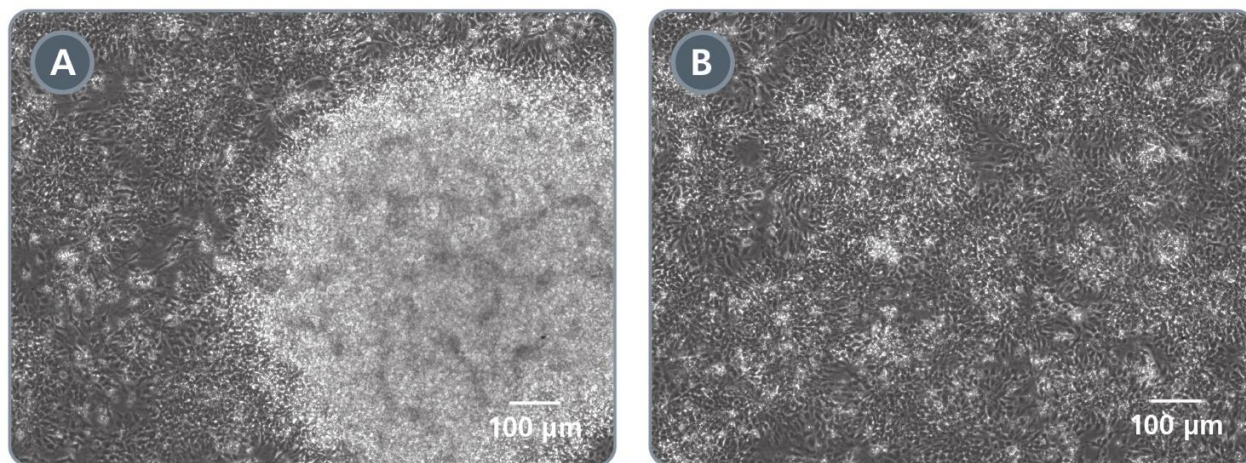

Figure 4. NPC Cultures Ready to be Passaged Using STEMdiff™ Neural Progenitor Medium
STEMdiff™ Neural Progenitor Medium is optimized for the expansion of NPCs generated using STEMdiff™ Neural Induction Medium using either the embryoid body (EB) protocol (section 5.1) or the monolayer culture protocol (section 5.2). See Figure 4 for examples of NPC cultures ready for passaging using STEMdiff™ Neural Progenitor Medium.
Refer to Figure 4 for examples of NPC cultures ready for passaging using STEMdiff™ Neural Progenitor Medium.